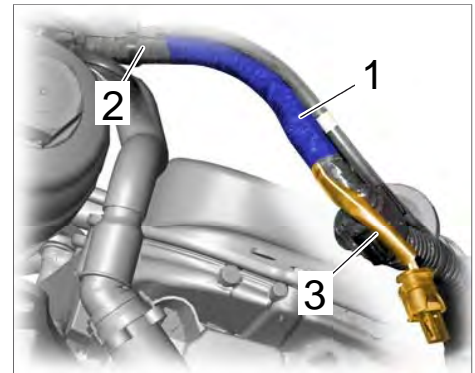

Figure 10
4.9 Wrap fabric tape ⇒ *Figure 10 -item 1-* around the main wire harness ⇒ *Figure 10 -item 2-* and connector wires ⇒ *Figure 10 -item 3-* again.